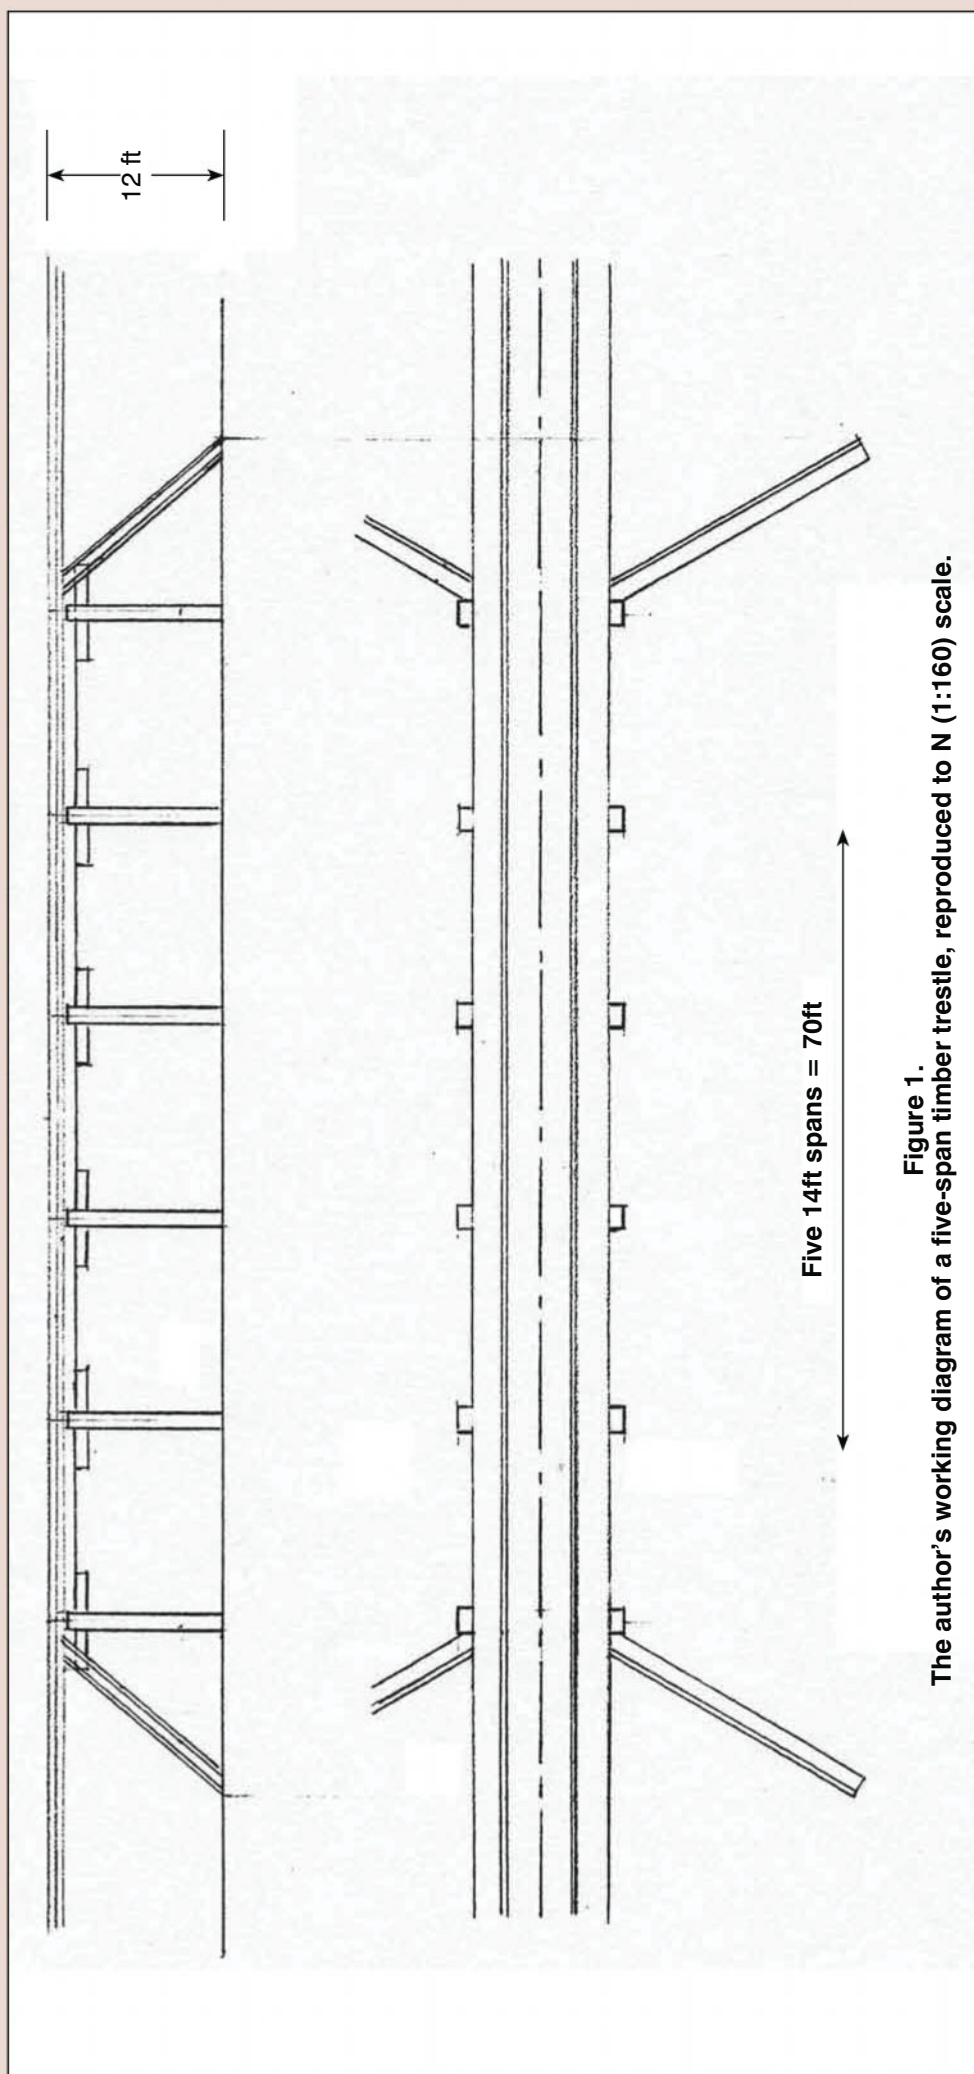

Figure 1.
2. Draw up a full-size, simplified plan of your bridge to show what it will look like and to check that it will fit in the available space, etc. Figure 1 shows a simplified plan for a timber trestle bridge with five 14' spans, 12' high embankment and full height wing walls. To simplify this task photocopy portions of the Data Sheet plan, such as the wing walls and trestles, as many times as necessary, cut these up and stick them on the simplified plan. This plan need not be pretty, but it should be accurate with respect to sizes and locations of the basic units of the structure.